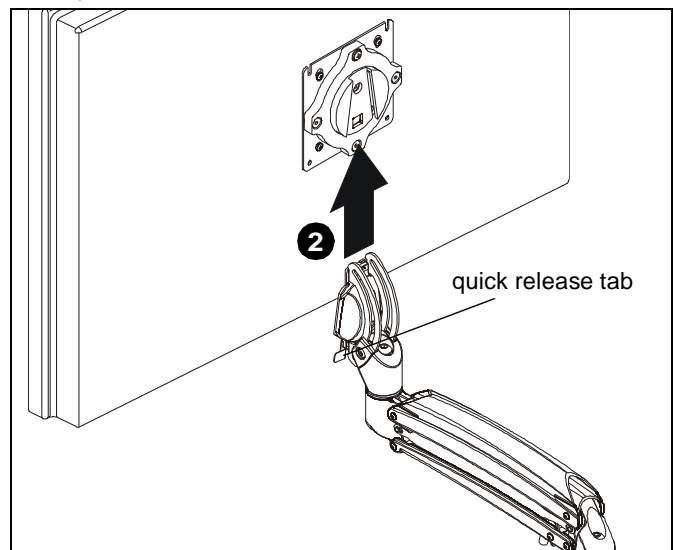

Figure 14
WARNING: Only remove display from mount when the display can be lifted up from the mount! DO NOT remove display unless the display is in the upright position! (See Figure 14)
2. Remove quick release faceplate from mount by pulling quick release lever and sliding faceplate off mount. (See Figure 14)